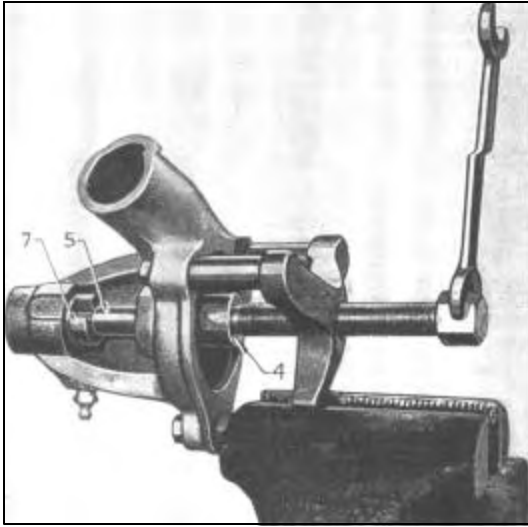

Figure 512—Installing Oil Seal
13. Put a new oil seal on the shaft (5) and put the large horseshoe (7) in place in the groove in the shaft. Tighten screw until oil seal is forced into place. Back off screw and remove horseshoe and push shaft forward into roller bearing. Figure 512.